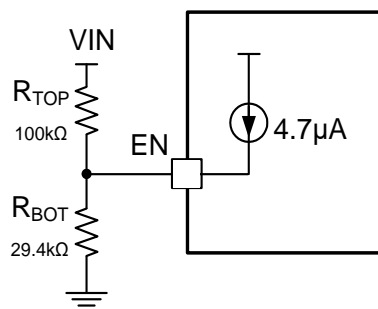

Figure 6: VIN UVLO Program
The MPQ4214 features a programmable UVLO hysteresis. When powering up, EN sources a 4.7μA current out of the EN pin once the EN voltage exceeds 1.35V (see Figure 6). VIN must decrease to overcome the current source and stop switching after the IC starts. The VIN start and stop switching thresholds are determined with Equation (1) and Equation (2), respectively: